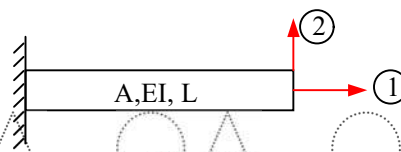

Figure 2
h) Develop the flexibility matrix for the co-ordinate system as shown in figure 2. [3]